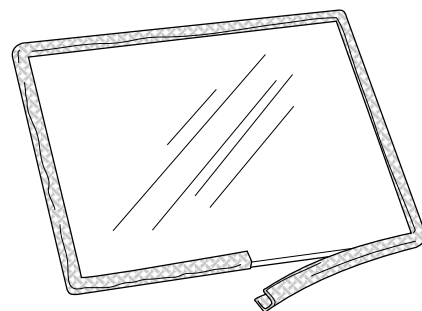

Figure 41. Wrap the gasket around the glass panel.
4. Remove the old gasket material. See fig. 41.